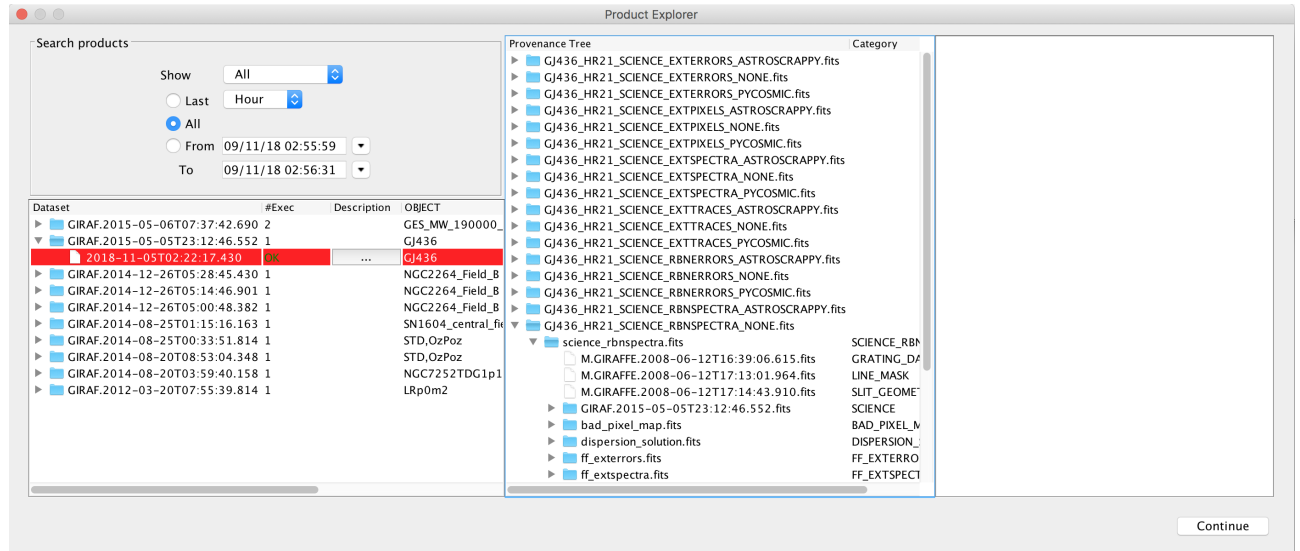

Figure 3.11: The Provenance Explorer shows all datasets reduced in previous executions together with the full reduction chain for all the pipeline products.
23. Once the reduction of all datasets has finished, a pop-up window called *Product Explorer* will appear, showing the datasets which have been reduced together with the list of final products. This actor allows the user to inspect the final data products, as well as to search and inspect the input data used to create any of the products of the workflow. Figure 3.11 shows the Product Explorer window. A full description of the *Product Explorer* will be presented in Section 6.3.3.